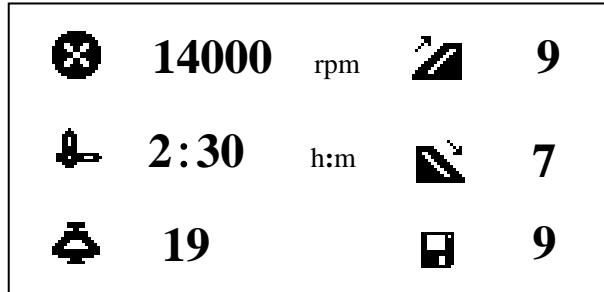

Figure 7-2 Preparation mode interface
- This centrifuge will move to a preparing screen after passing the self-checking step, and display the running parameters of the last time. For example, the Figure 7-2 shows that the speed was set to be 14000rpm, the running time was 2 hours and 30 minutes, the acceleration rate was 9, the deceleration rate was 7, the rotor ID was 19, and the program group number was 9.
Figure 7-2 is only an example. User's setting parameters and running parameters may be different from that in the figure.